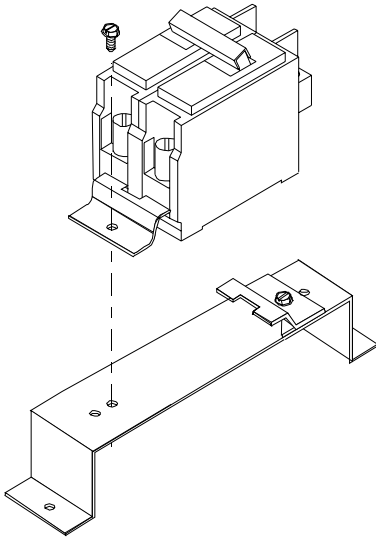

Figure 1
1. Check circuit breaker for manufacturers name. Select mounting holes in mounting bracket to match part as indicated in Figure 1 (GE and Westinghouse use outer holes). Secure one of the two small mounting clips to the mounting bracket. Do not fully tighten the mounting screw at this time.